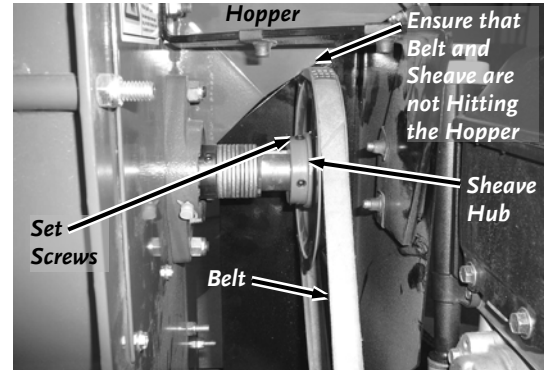

Figure 25
- a) Loosen the Sheave Hub Set Screws with a 5/32" Allen Wrench (**Figure 25**).
NOTE: Make sure that the Belt or Sheave is not hitting the Hopper (**Figure 25**).